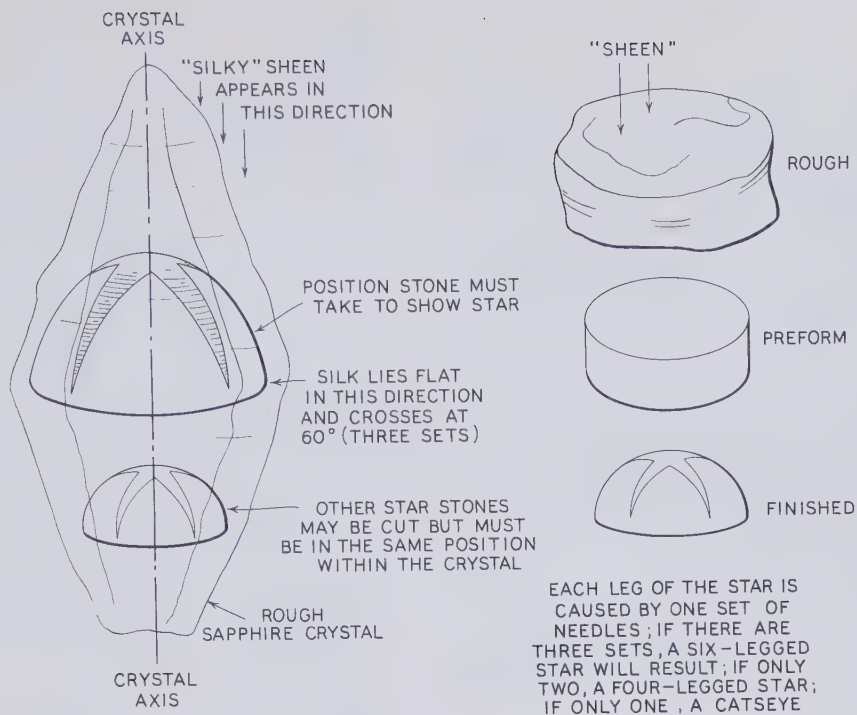

Fig. 76 Producing a star gem from a sapphire crystal.
**Star Stones.** Two or three sets of needles in a gemstone provide stars, or the effect known as *asterism*. Each set of needles gives off its own line of light and if the stone is properly oriented, cross on top to produce the star. If two sets of inclusions are present, a four-legged star will be produced; if three, a six-legged star. Unfortunately, most star stones contain very minute needles which are less easily detected than are the single sets in catseyes, so some care and extra trouble are required in locating the apex of the star. The simplest way is to round off and polish about one third to one half the surface of the rough and inspect this area directly under a point of light, such as a single overhead bulb or a pencil flashlight. Tilt the stone slowly back and forth and note where the legs cross; mark this spot with an aluminum pencil. Recut the stone to place this spot on top of the finished gem. Even if the apex of the star is not seen, any two legs converge toward the cross-over point and the latter can be located with reasonable accuracy. Examination must be under a single-point source, *not* diffused light such as that from fluorescent fixtures and bulbs covered with milk-glass bowls. Have the light directly overhead during examination. Figure 76 shows how star stones are produced from either well-formed crystals or from irregular bits of rough. Figure 77 shows